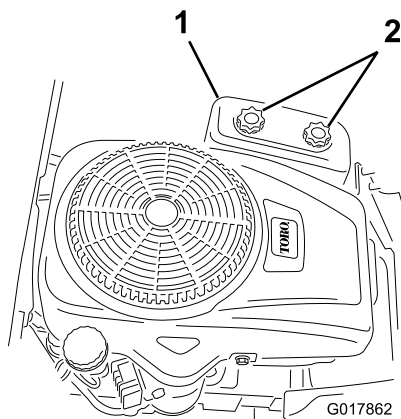

Figure 26
4. Remove the air cleaner cover by unscrewing the 2 knobs (Figure 26).
3. Install the air cleaner cover and tighten the two knobs (Figure 26).